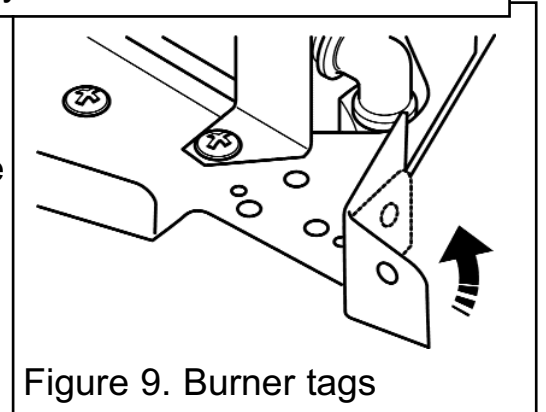

Figure 9. Burner tags
- The two tags at the side of the burner can be folded against the side of the burner tray. This may be required for installations where the width of the fireplace opening is restricted or when fitting into a 'Spanish Basket' casting (See figure 9).